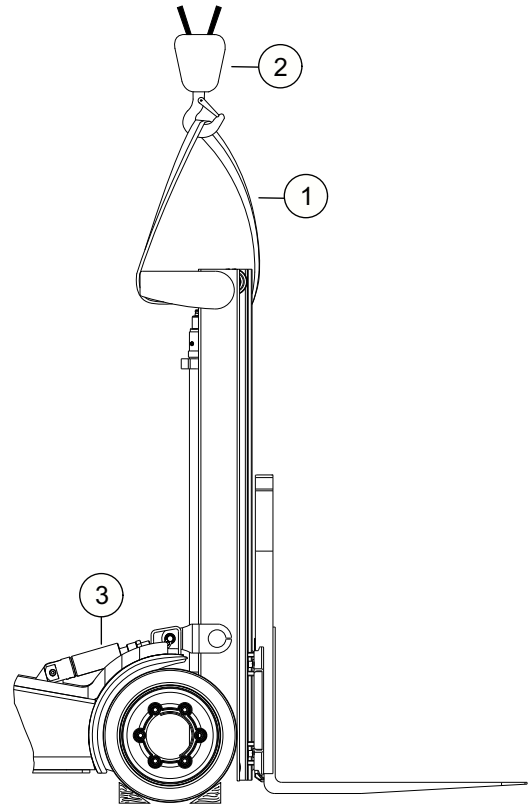

Fig. 3 (33634)
2. See Figure 3. Attach a sling (1) and lifting device (2) to all top cross braces of the mast so that movement is minimal when the tilt cylinders (3) are disconnected.